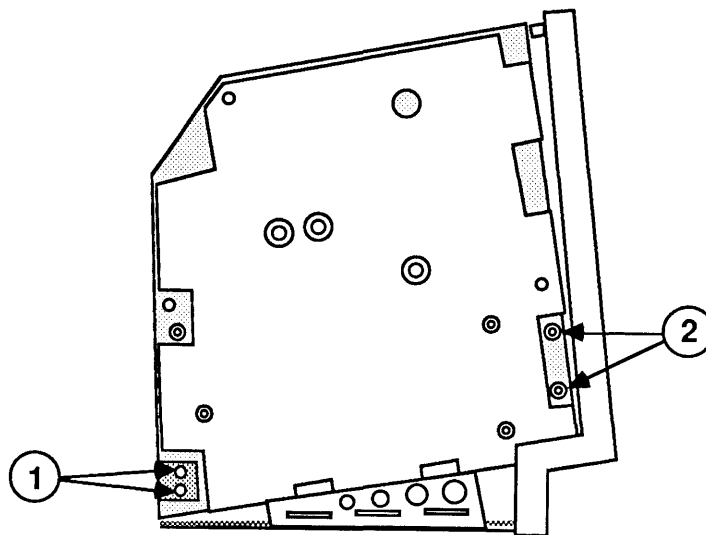

FIGURE 12
6. Replace the metal clip and the two lower-left analog board screws (Figure 12, #1).
7. Replace the two lower-right analog board screws (Figure 12, #2).